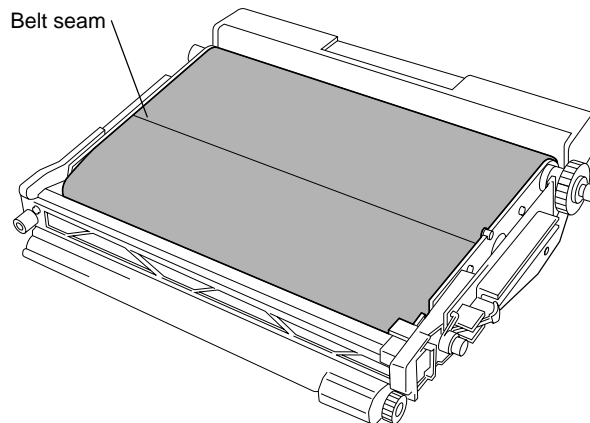

Fig.8-8
- 1) Foreign particles adhering to the following places around the developer roller. (Refer to Fig.8-8.)
If foreign particles adhere to (d) of Fig.8-8, remove them referring to one of the figures below.